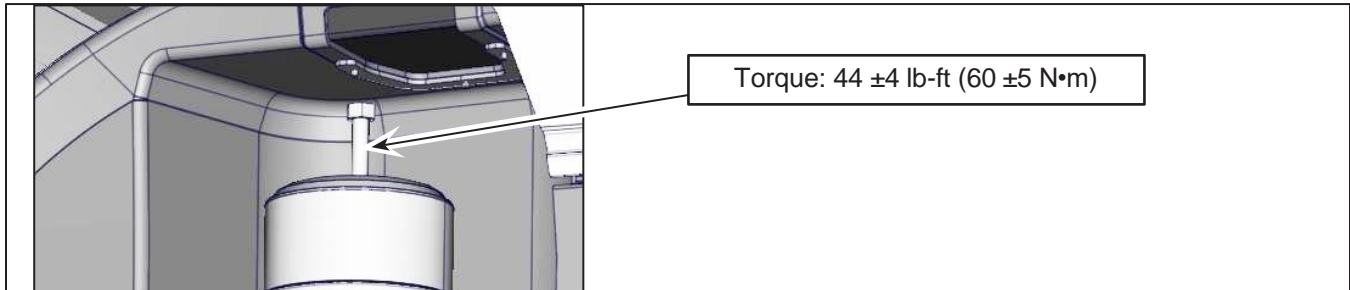

Figure 4 - Screw the Release Bolt
- 2.11. Tighten the release bolt of the new brake chamber using a **hand wrench** to a torque of  $44 \pm 4$  lb-ft ( $60 \pm 5$  N•m ) (Figure 4). Apply torque seal.